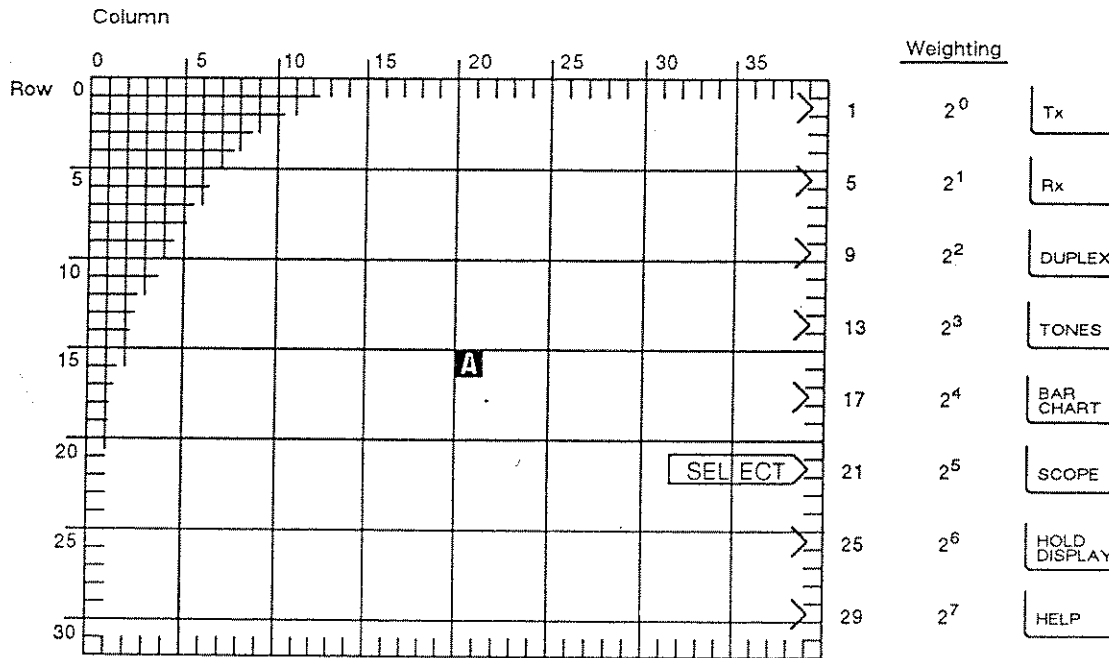

Fig. 4-7 Screen addressing example
To write a reverse video A at the centre of the screen at column 20, row 15, use "WR20,15,";CHRS(97) or "WR20,15,a". To write SELECT in the box alongside the SCOPE/BAR key, use BX32,6;WR32,21,SELECT<LF>. See Fig. 4-7.